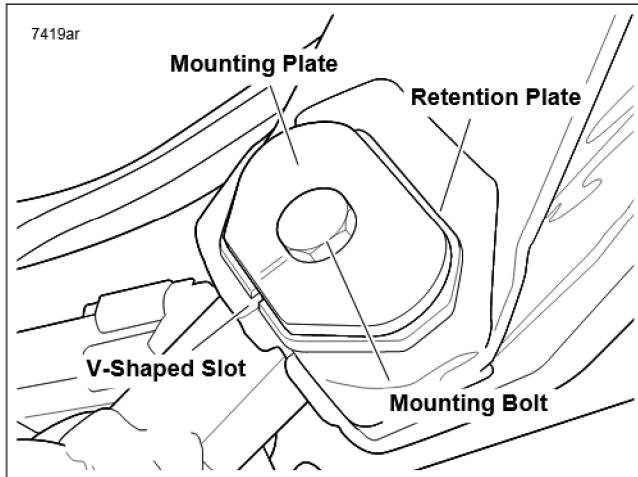

Figure 4. Final Assembly
- See Figures 4 and 5. Place the remaining retention plate and mounting plate in position on top of the fuel tank rear mounting projections. Make sure shorter straight side of both retention plate and mounting plate face to rear of vehicle.